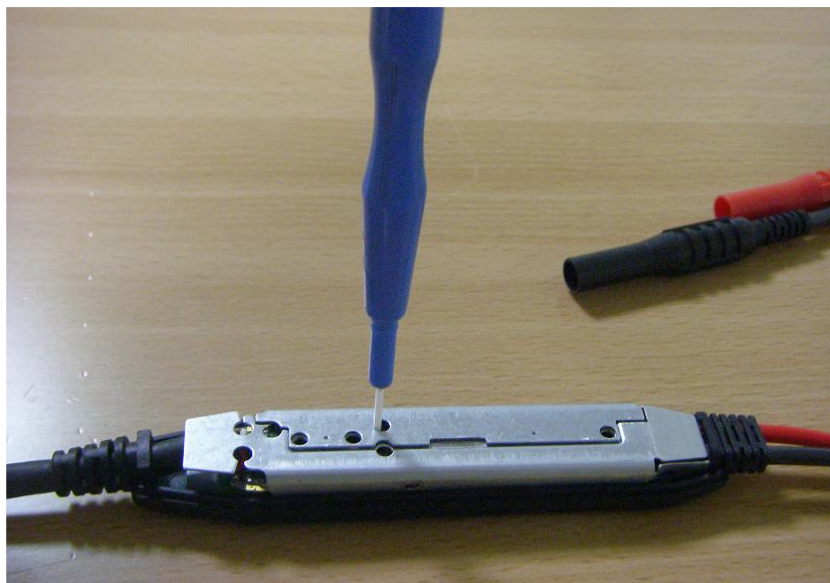

Fig. 2
- A-3. Remove the plastic cases. Fig.2 shows the location of adjustments on topside and bottom side of the metal case.